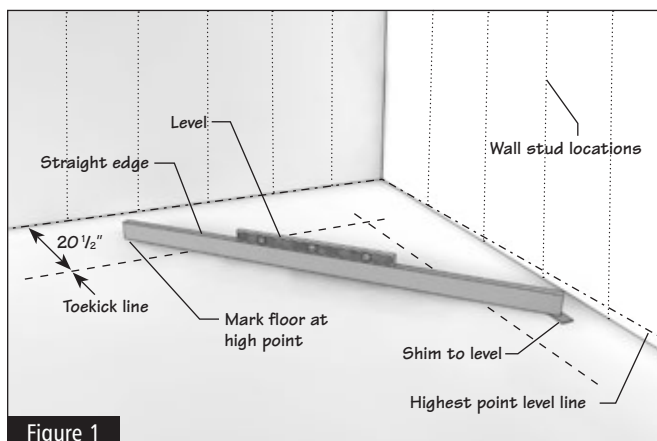

Figure 1
- 1.1** First, locate the floor's highest point. In order to do this, place your level at the base of the wall, checking several places along the wall until you find the high point in the floor. Mark this spot. (Figure 1)